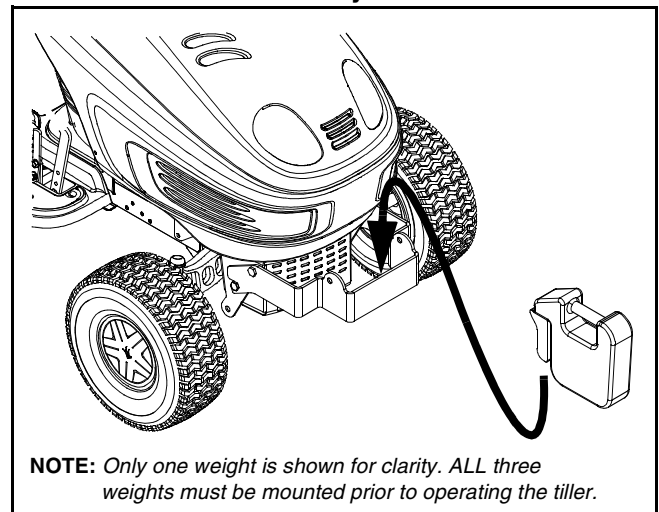

Figure 4
- Carefully place the weights onto the bracket one at a time. See Figure 4.